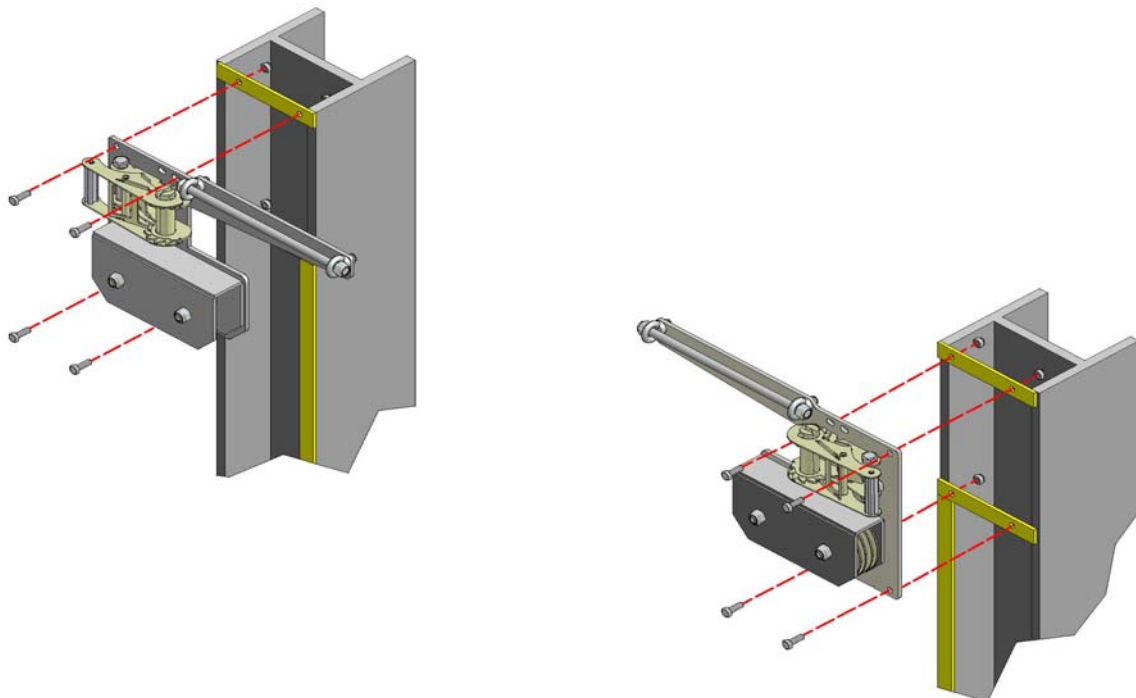

Figure 4
2.1 Top Plate Assembly: Bolt the Top Plates (H1 and H2) to the pre-installed brackets on the tracking top with the eight M8 x 30 bolts supplied (Figure 4)